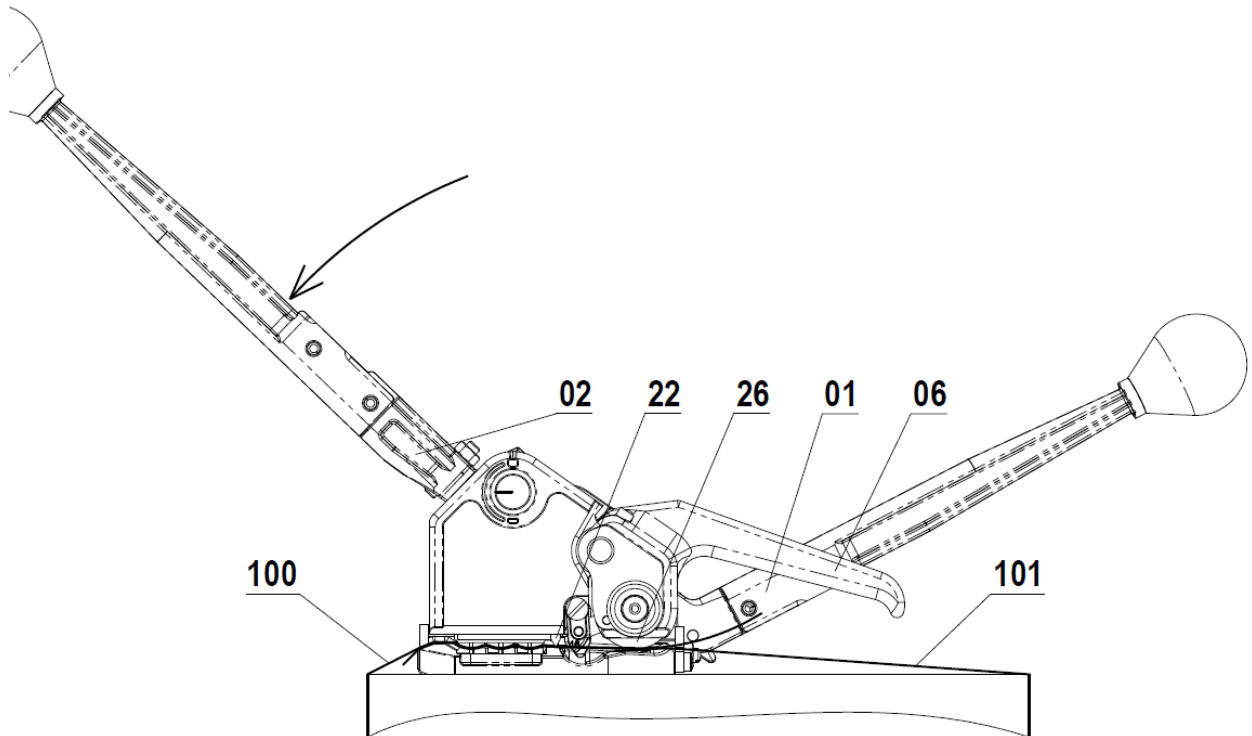

Fig. 4
3. Once satisfactory tension is achieved return **Tension Handle 01** back and push **Sealing Handle 02** forward to seal the joint and cut the excess strap as shown on Fig.4